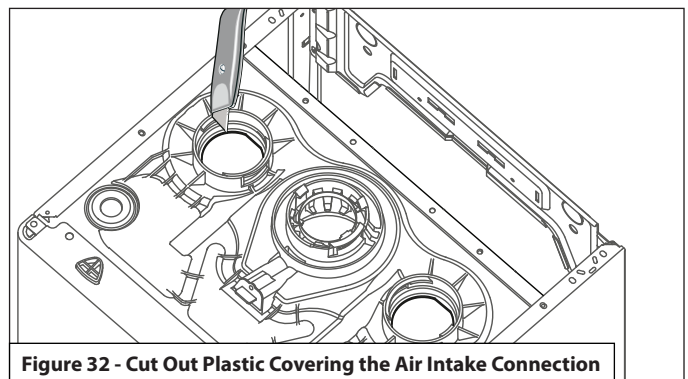

Figure 32 - Cut Out Plastic Covering the Air Intake Connection
Follow the steps below to install air intake pipe into the boiler air intake connection. See Figure 32 for additional details.
Select an air intake connection (left or right of the exhaust vent collar). See Figure 32.
1. Using a utility knife, cut out the plastic covering the air intake connection from the side chosen. **NOTE: DO NOT CUT OUT BOTH SIDES!** See Figure 32.